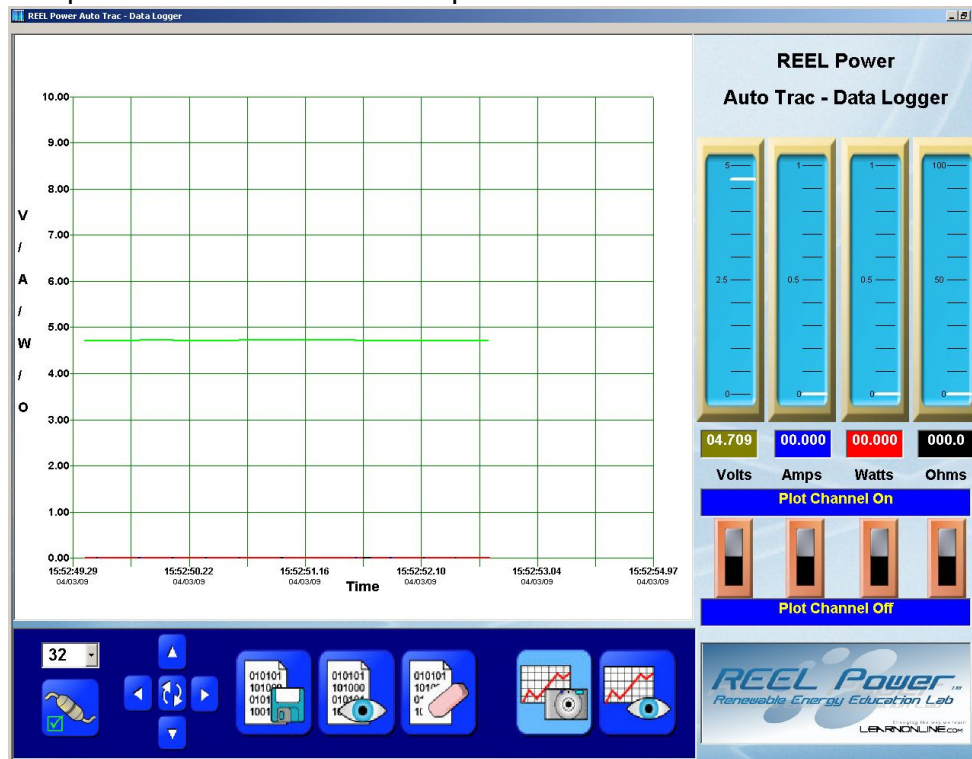

Figure 2 – Plot of Sunlight Captured by the Solar Panel
5. Point the solar panel to a window to capture sunlight. Note the steady "line" of voltage as in Figure 2. Point this out to the students as they watch. Optionally, click on the snapshot icon to capture a screen shot of the data for later print out or inclusion into reports.